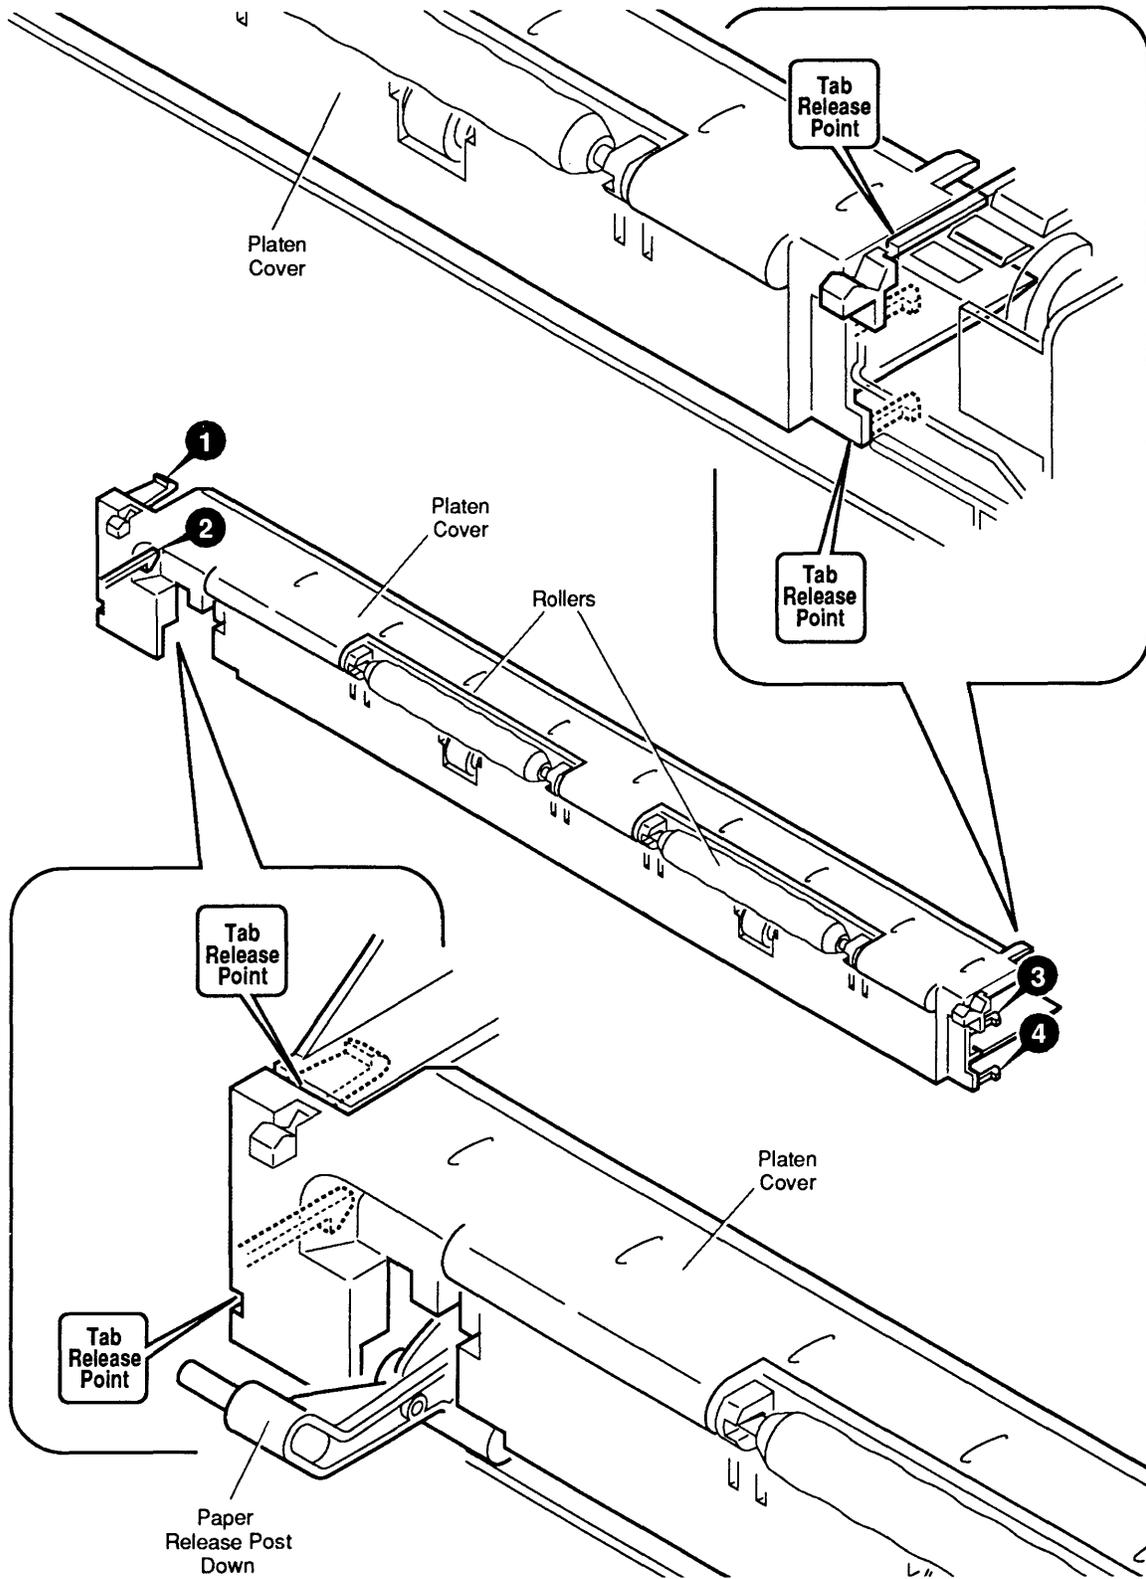

Figure 2-9 Platen Cover and Rollers
3. Before going on, examine **Figure 2-9** to familiarize yourself with the placement of the four tabs (**#1**, **#2**, **#3**, and **#4**) that hold the platen cover in place, and the location of the tab release points on the printer frame (shown in the upper and lower closeups). Only the lower right tab (**#4**) is visible from the outside when the platen cover is in place.
4. Using a precision (jeweler's) screwdriver, **carefully** free the upper-left tab (**#1**) at the tab release point indicated in the lower figure closeup (**Figure 2-9**).